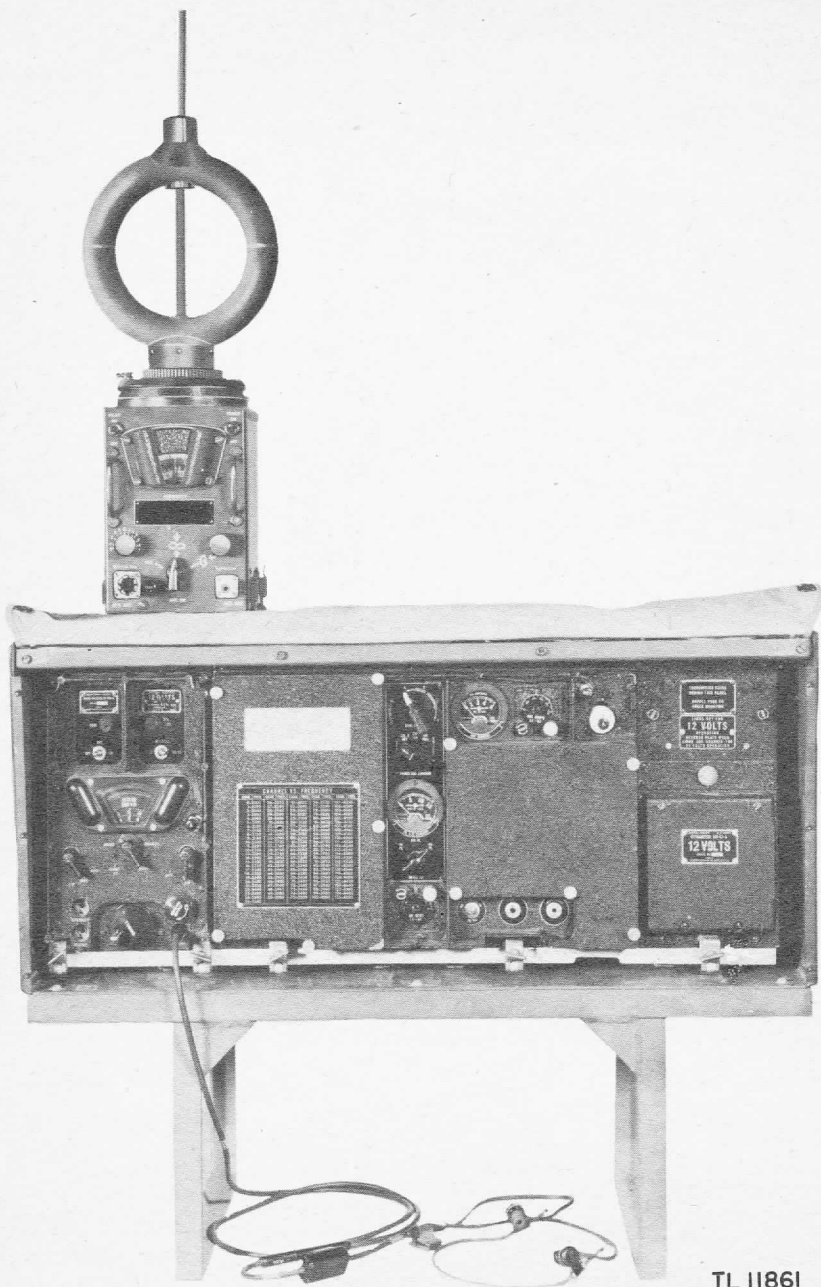

Figure 14. Antenna System AS-81/GR, mounted on Radio Set SCR-506-(&).
9. INSTALLATION WITH RADIO SET SCR-506-(&) (figs. 14 and 15).